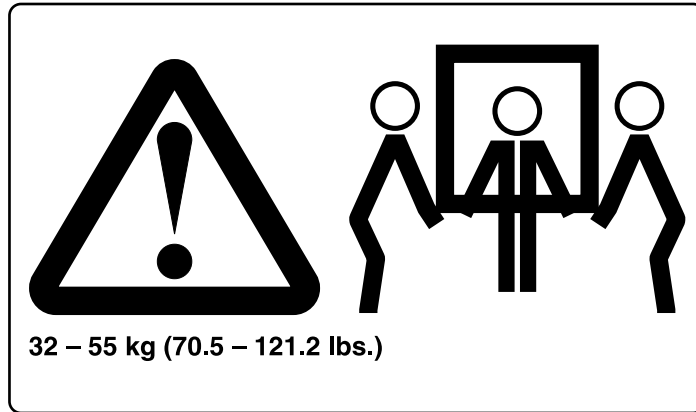

Figure 8. Three-man lift label
- Three-man lift. See Figure 8 on page xx.